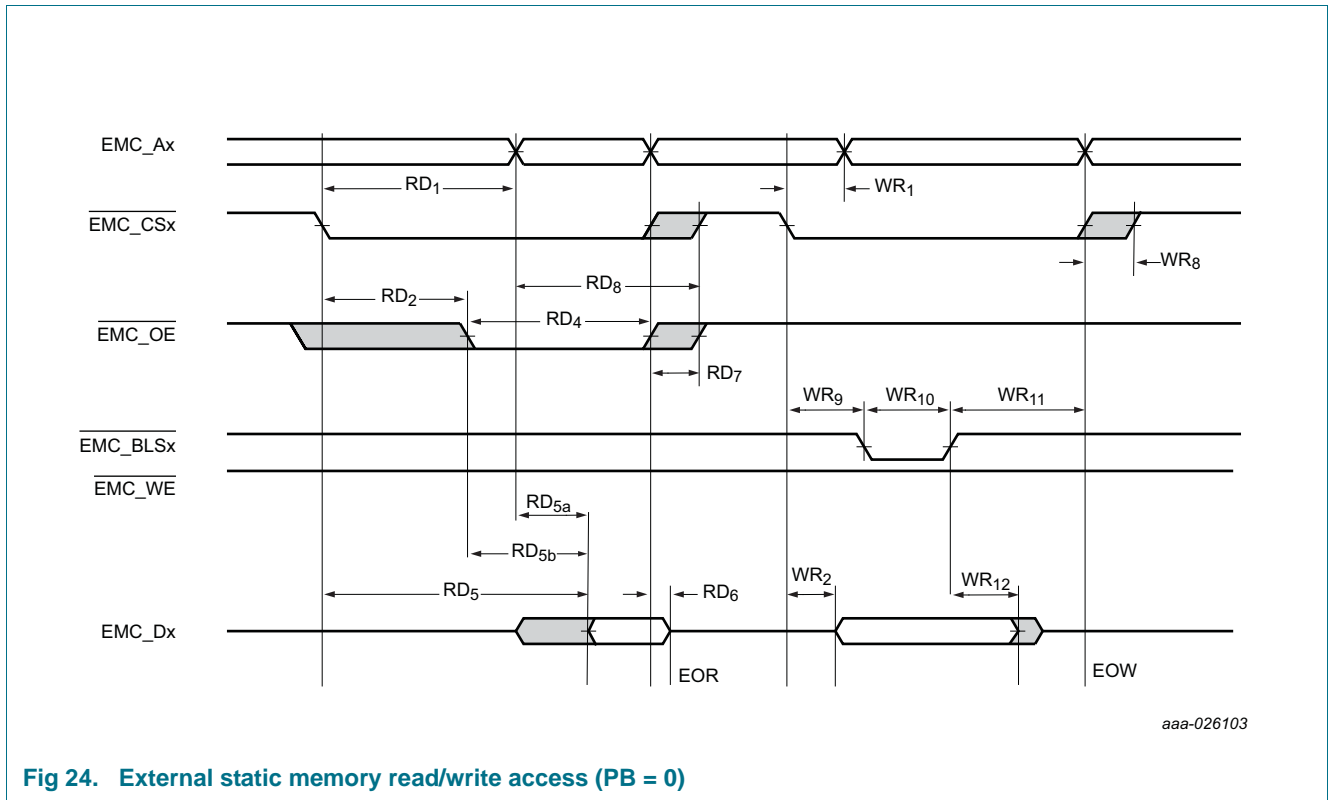

Fig 24. External static memory read/write access (PB = 0)
- [1] Parameters are shown as RDn or WDn in Figure 24 as indicated in the Conditions column.
[1] Parameters are shown as RDn or WDn in Figure 24 as indicated in the Conditions column.